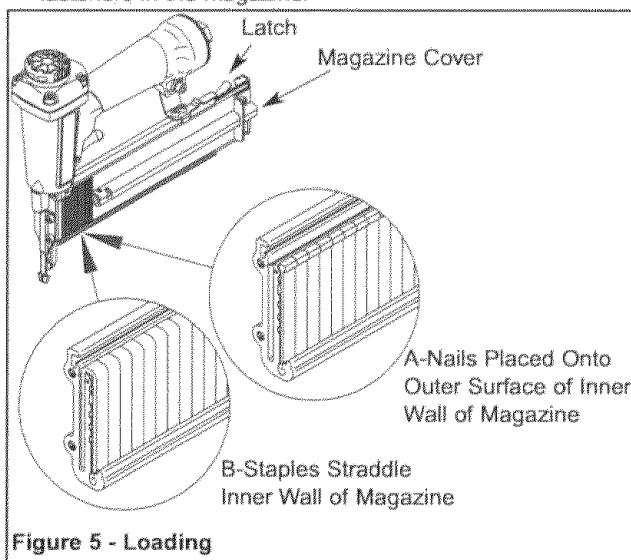

Figure 5 - Loading
Refer to Figure 5.
- Lift latch and slide magazine cover backwards (see Figure 5). Insert fasteners into magazine. Position nails at bottom of magazine with heads toward top of tool (see Figure 5A).